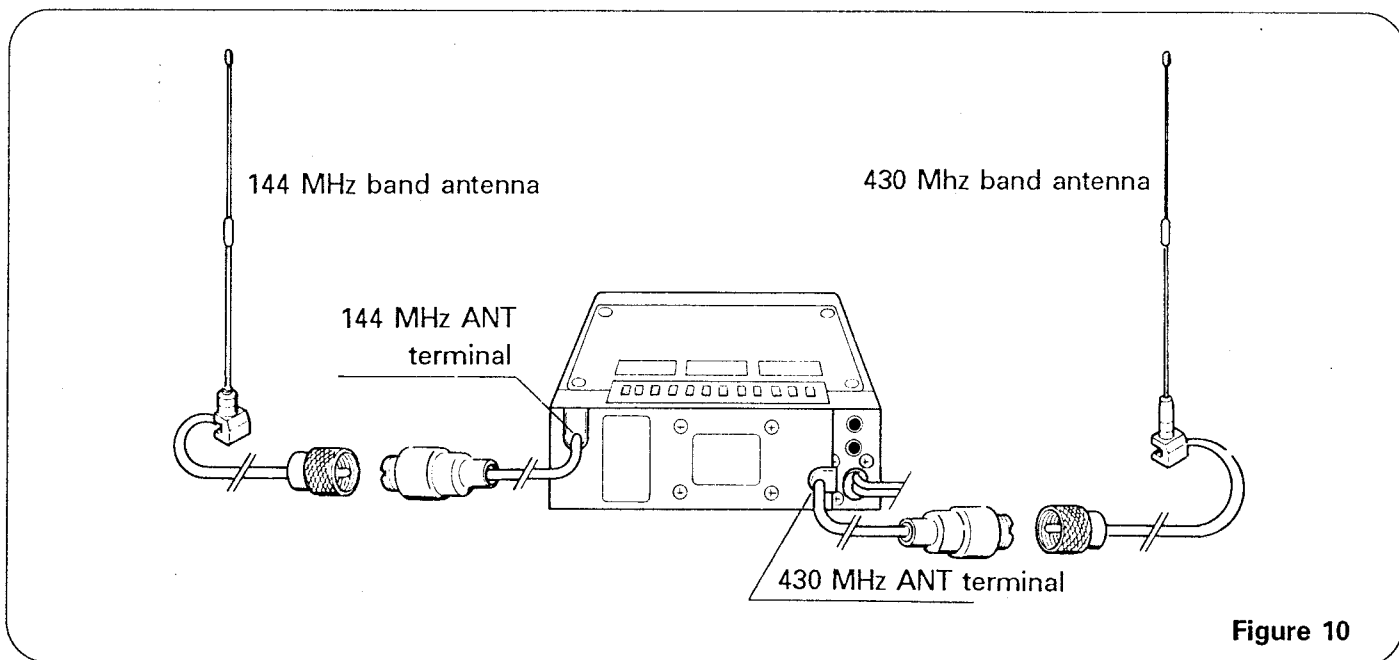

Figure 10
① When connecting to independent antenna (Figure 10)